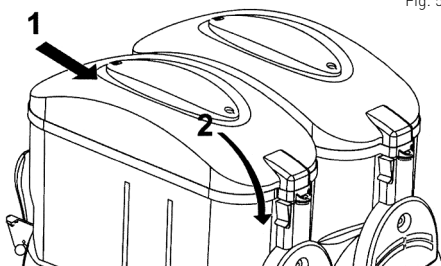

Fig. 5
- After pouring/refilling the food ingredient into the bowl (2), close the bowl lid (1) on top of the bowl (2). See Fig. 5.